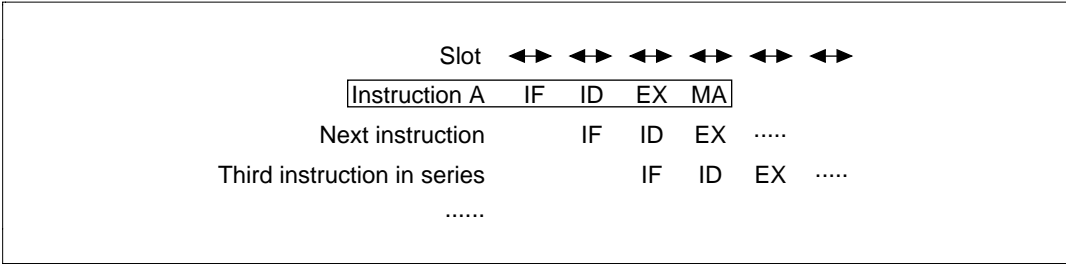

Figure 10-24 Memory Store Instructions Pipeline
The pipeline has four stages: IF, ID, EX, and MA (figure 10-24). Data is not returned to the register so there is no WB stage. See section 10.2.1, Contention between Instruction Fetch (IF) and Memory Access (MA), with reference to contention between the MA and IF stages of these instructions.
(4) Memory Store Instruction (Pre-decrement)